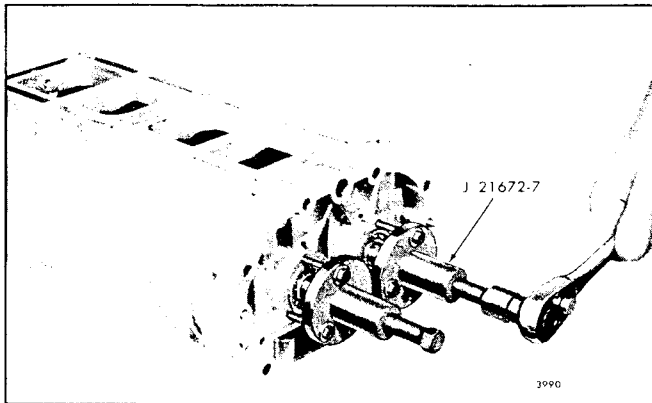

Fig. 7 - Removing Blower Rotors from Front End Plate Ball Bearings (Former Blower)
- a. Back the center screw out of both pullers J 21672-7, then attach the pullers to the blower front end plate with six 1/4"-20 x 1-1/2" or longer bolts as shown in Fig. 7.